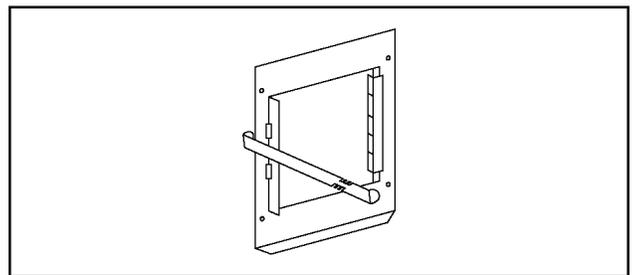

Figure 18 - Connecting the Control Arm
- b. **Assembling the Control Arm of the OA Kit.** Connect the control arm onto the damper assembly. See Figure 18. Remove the access panel on the side of the fireplace.